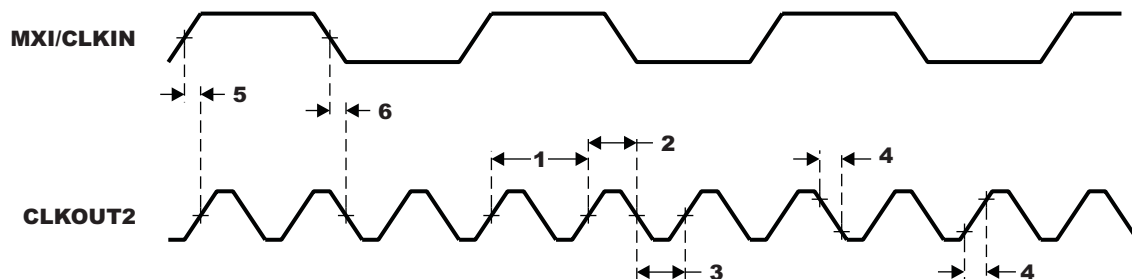

**Figure 5-10. CLKOUT2 Timing**
**Table 5-8. Switching Characteristics Over Recommended Operating Conditions for CLKOUT2(1) (2) (see Figure 5-10)**